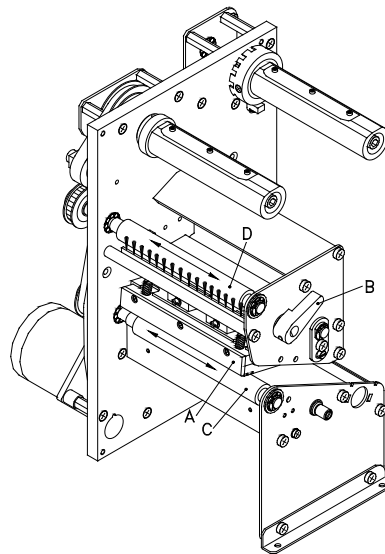

Figure 24
2. Turn red lever (B, in Figure 24) counter clockwise to lift up the printhead.
4. Blow out the photocell (A) with pressure gas spray. Observe strictly the instructions on the spray can!
5. Clean the label photocell (A) additionally with a cleaning card (B) before soaked in pure alcohol. Move the cleaning card from one side to the other (see illustration).